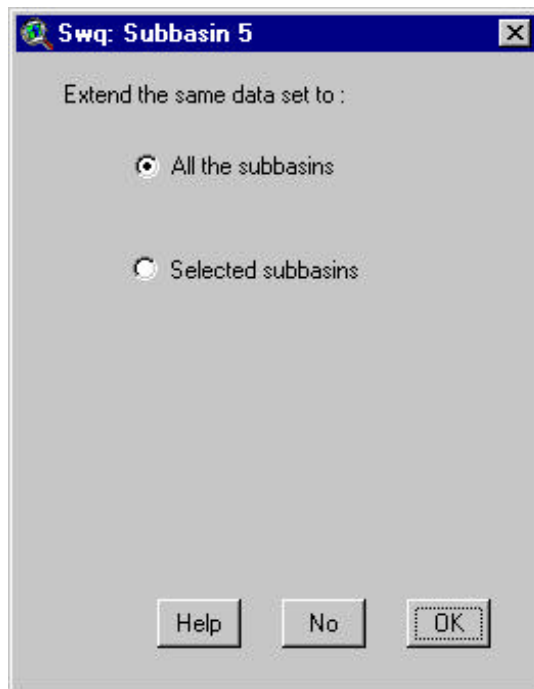

Figure 12.92
5. If the user saves the modified values, once the values are saved for the subbasin (by clicking **OK** in step 4) a new dialog box is displayed allowing the user to copy the modifications to other subbasin data sets (Figure 12.92).